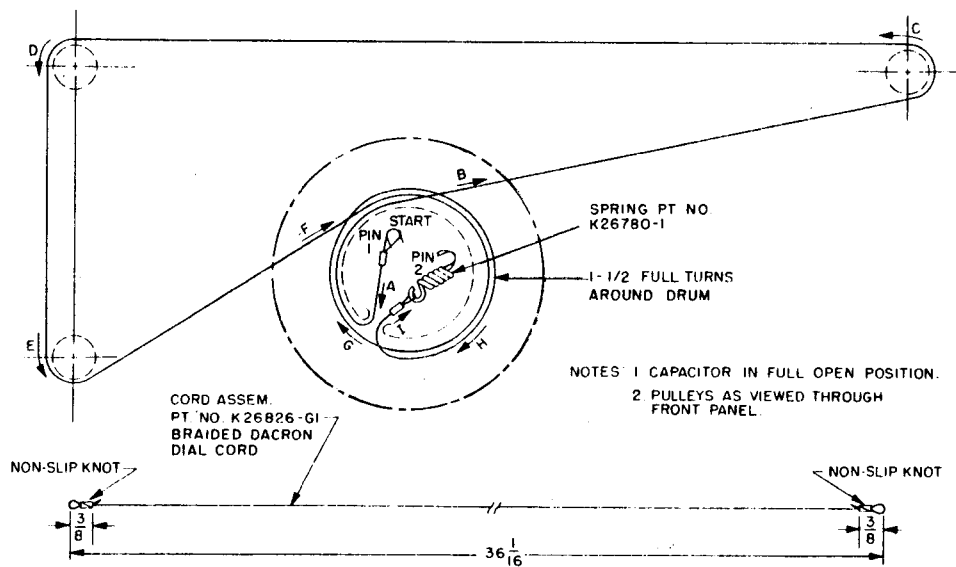

Figure 10. Restranging the Dial Pointer Mechanism
5. Place the loop end of the dial pointer cable over pin 1 on the dial drive drum. Following the lettered sequence shown in figure 10, string the dial pointer cord and anchor the spring over pin 2 on the dial drive drum.